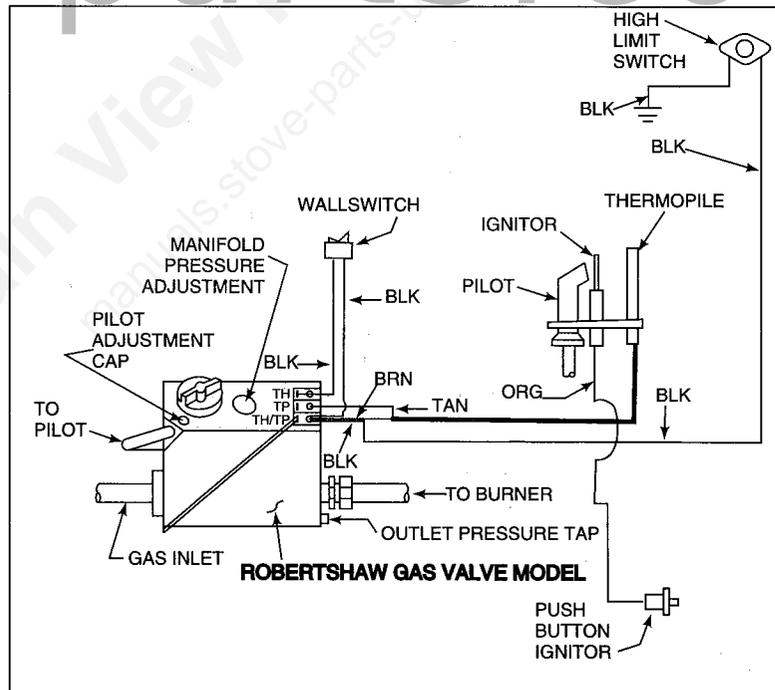

Figure 17
1. Remote Wall Switch. Position the junction box (not provided) in the desired place on the wall. Wiring located for the the wall switch will be found protruding from the left side of the fireplace. Run the wire to the junction box, connect to the provided wall switch and mount the wall switch inside the junction box. A wiring diagram is shown in Figure 17.